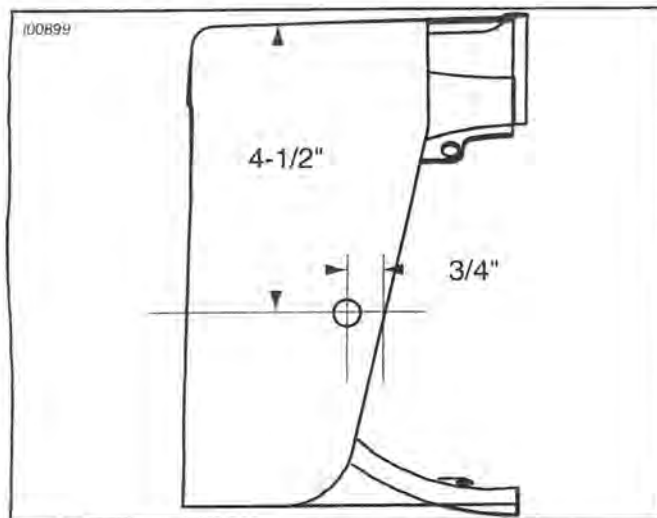

Figure 1. Location for Switch Hole in Nacelle (Nacelle Rear View)
1. See Figure 1. Remove the left half of the nacelle (if installed). Cover the location where the passing lamp switch hole will be drilled with transparent tape or masking tape and mark the hole location as shown.